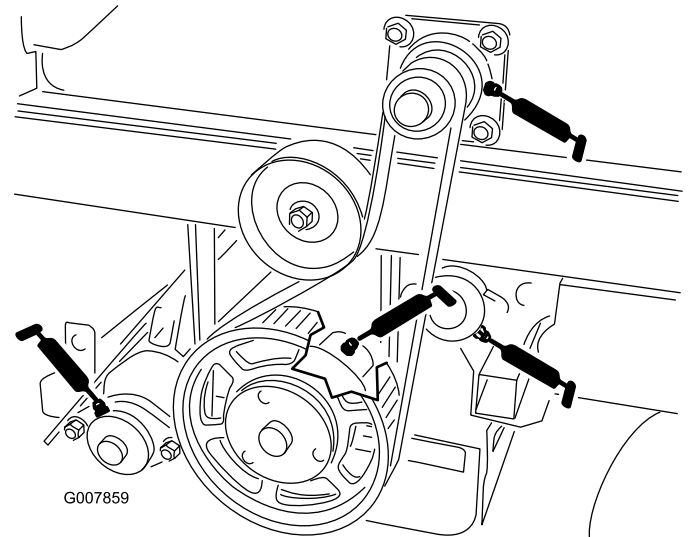
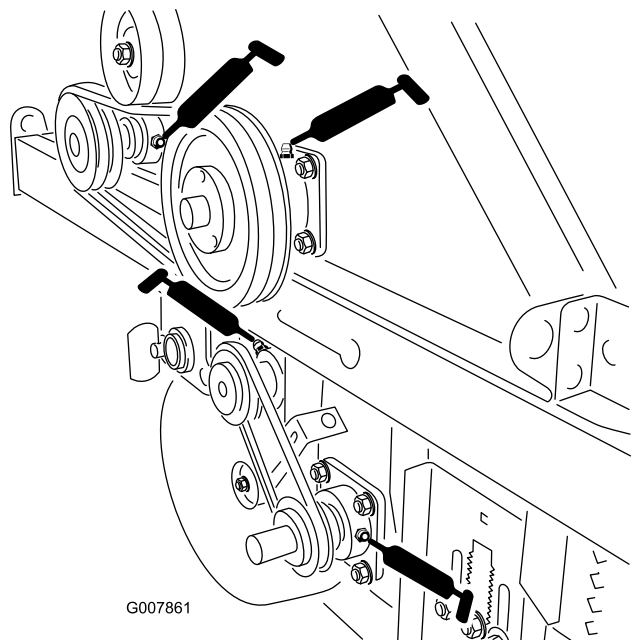

Figure 41
Figure 43
- Chopper assembly, Qty. 2 (Figure 43 & Figure 41)
- Rotating corner, Qty. 2 (Figure 43 & Figure 41)
- Pickup brush, Qty. 2 (Figure 43 & Figure 41)
- Rear roller, Qty. 2 (Figure 41)